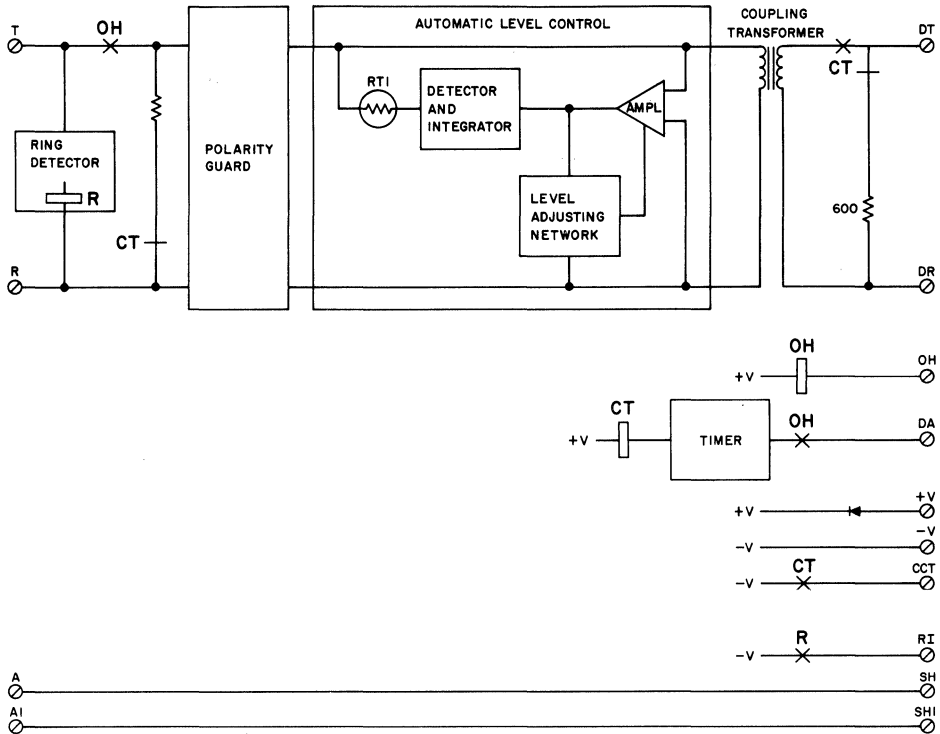

Fig. 3—Functional Schematic of 1001B Data Coupler—Data Mode
2.09 Coupler Transmission Path: The coupler transmission path primarily consists of a coupling transformer, an ALC circuit, and a polarity guard (Fig. 3). The transformer terminates the telephone loop and provides a 2-way protective function (ie, hazardous voltages, surge protection, and longitudinal isolation). The ALC circuit prevents the customer signal level from exceeding the prescribed maximum limit. The polarity guard
2.12 Ring Detection: The ring detector (Fig. 3) is activated when the 20-Hz ringing signal is present on the line, indicating an incoming call. The R relay, part of the ring detector, operates and releases in response to each half cycle of